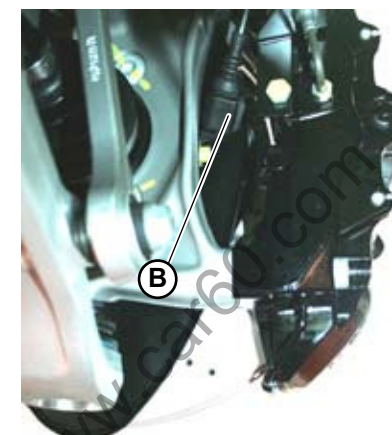

Fig.1
1. Release the front brake calliper (A-Fig.1) without disconnecting it from the hydraulic circuit.
2. Disconnect the ABS sensor (B-Fig.1).
3. Loosen the screw (C-Fig.1) securing the axle shaft to the front hub housing.